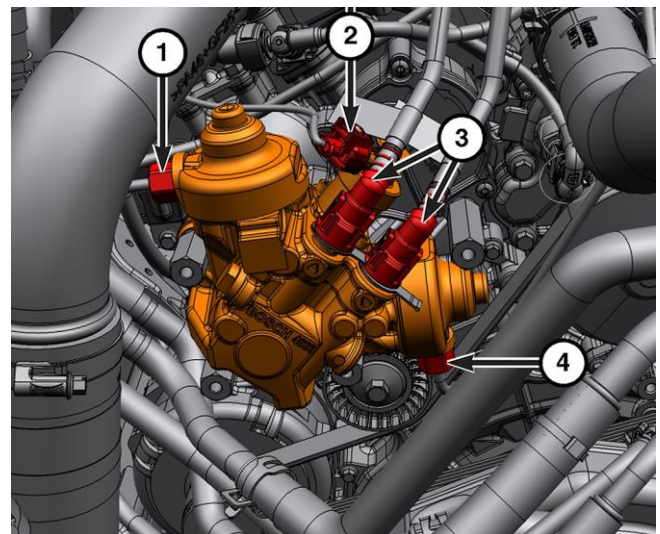

Figure 82 – HPFP Tubes and Lines
4. Remove the fuel rail supply tubes (1, 4) (Refer to 14 - Fuel System/Fuel Delivery/TUBE(S), Fuel/Removal and Installation) (Figure 82).
5. Disconnect the low-pressure fuel supply lines (3) (Figure 82).
6. Disconnect the fuel quantity solenoid wire harness connector (2) (Figure 82).
27. Connect the fuel injection pump electrical connector (2) (Figure 82).
28. Connect the low-pressure fuel return line (3) to the HPFP (Figure 82). **DO NOT** connect the low-pressure fuel supply line to the HPFP at this time.
29. Install the fuel rail supply tubes (1, 4) to the HPFP (Figure 82). Refer to 14 - Fuel System/Fuel Delivery/TUBE(S), Fuel/Removal and Installation.